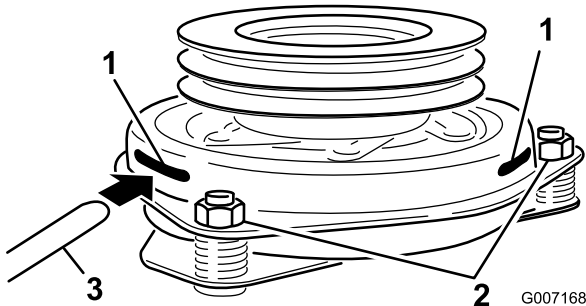

Figure 58
9. Insert a 0.015–0.021 inch (0.381–0.533 mm) feeler gauge through one inspection slot in the side of the assembly. Make sure it is between the armature and the rotor friction surfaces (Figure 58).
10. Tighten the lock nuts until there is slight binding on the feeler gauge but it can be moved easily within the air gap (Figure 58).